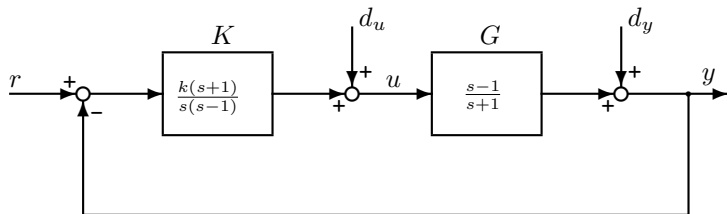

Figure 7: Internally unstable system
**Example [4.14]:** (Figure 7). In forming  $L = GK$  we cancel the term  $(s - 1)$  (a RHP pole-zero cancellation) to obtain